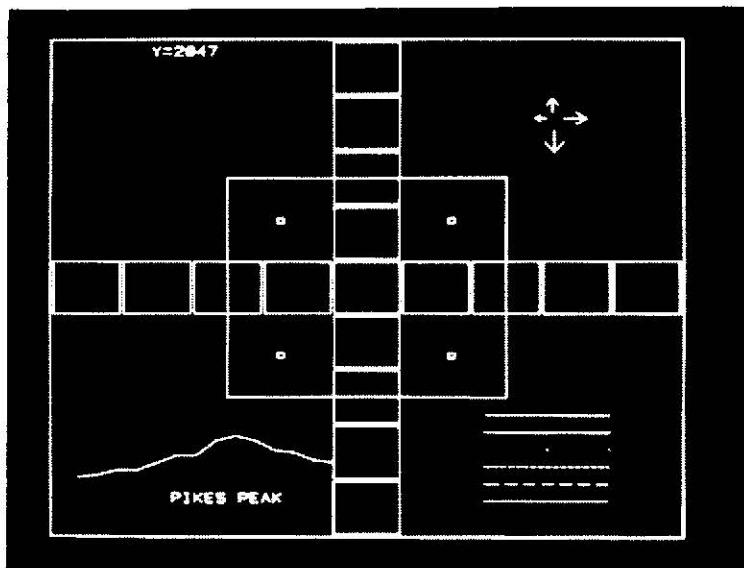

Figure 4-2. Display of Properly Calibrated Pattern
- c. Check for a display as shown in figure 4-2.